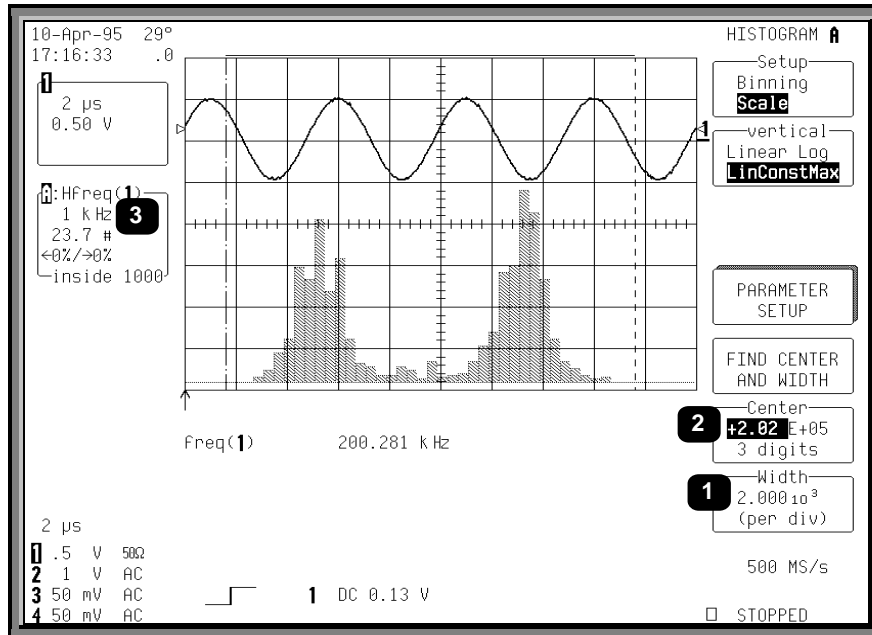

Figure 2.6
**LinConstMax** sets the vertical scaling to a linear value that uses nearly the full vertical display capability of the scope (Fig. 2.6). The height of the histogram will remain almost constant.